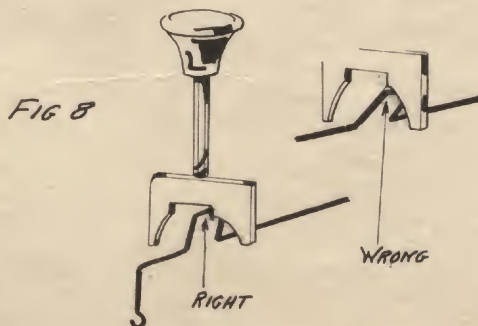

FIG 8
- IMPORTANT - EACH LUG MUST ENTER THE SLOT OF THE KEY (SEE FIG 8 PLATE 53) THIS IS NOT POSSIBLE IF THE LUG WAS BENT TOO MUCH - WHEN BUT A SLIGHT BENDING WILL NOT DO THE ADJUSTMENT SHOWN ON PLATE 56 MUST AGAIN BE MADE.